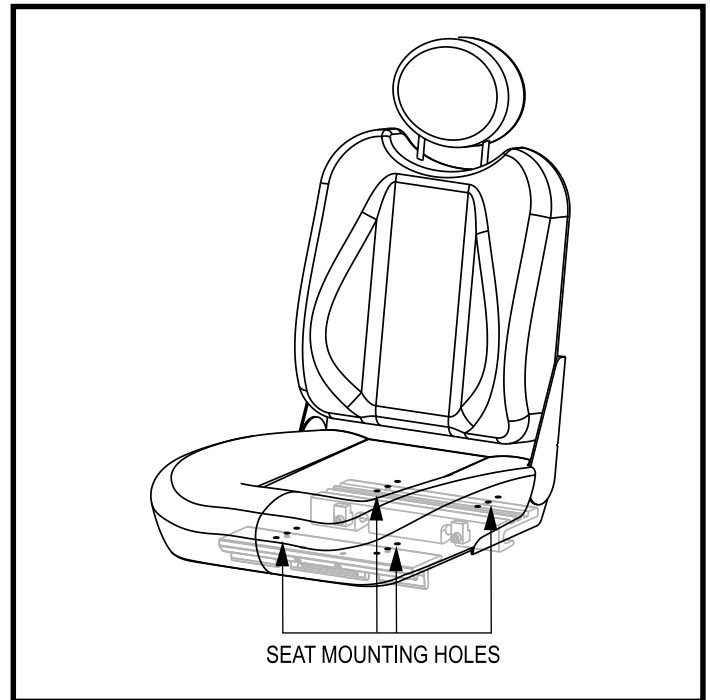

Figure 15. Seat Position Adjustment
7. Reposition the extrusions on a different set of mounting holes. You must move both extrusions the same number of holes either forward or rearwards. See figure 15.